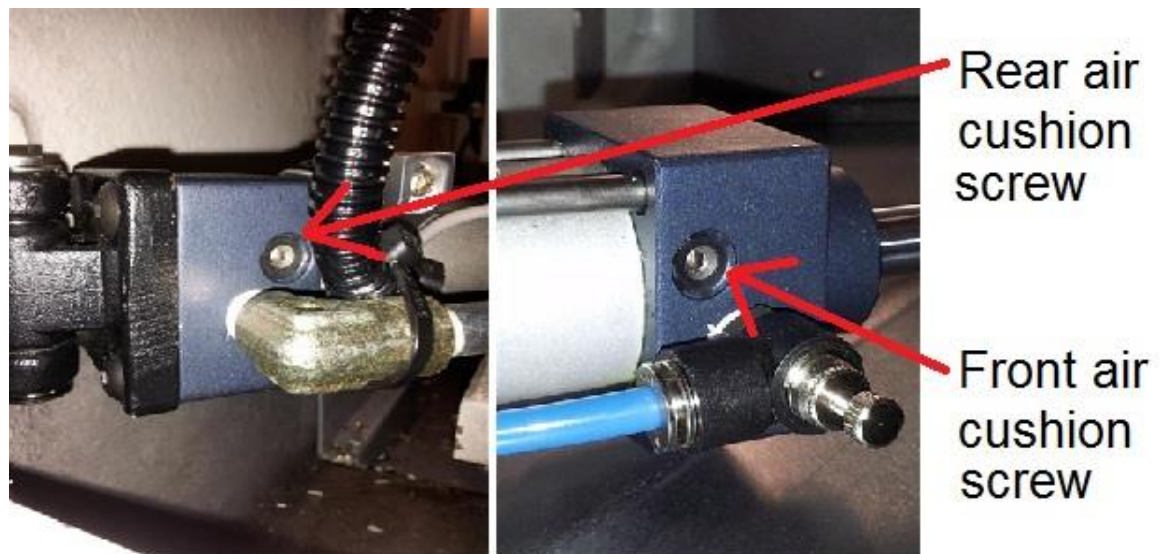

Figure 5.9a
**Front Internal Cushion adjustment** – this air cushion controls the deceleration of the cylinder when it is within the last 1.5 inches of its full extension. It causes the cylinder to slow down gradually near the end of the extend stroke. See figure 5.9a.
**Initial adjustment** – close the cushion all the way down, and open it 1/4 turn. Figure 5.9a shows both cushions on the ATC cylinder.